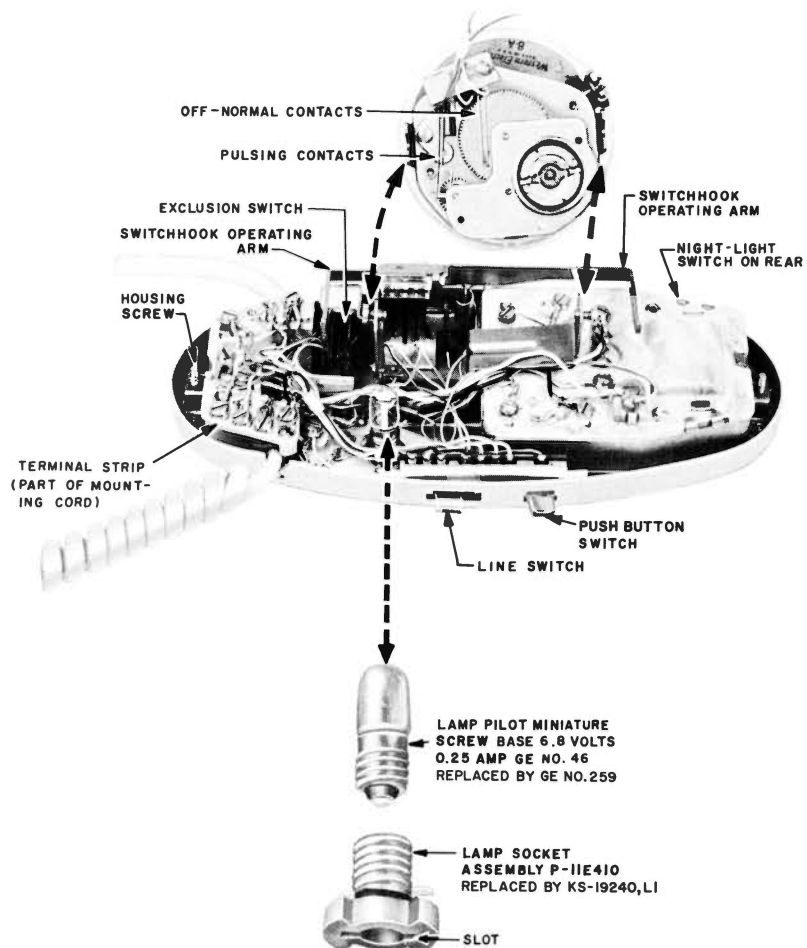

Fig. 13 - 711B Telephone Set with Dial and Socket Removed
3.01 Components of the 700-type telephone sets are shown in Table A and Fig. 13. Descriptions of these items may be found in the appropriate sections.
3.03 The 8-type dial used in the 700-type set has a translucent number plate which is indirectly lighted by the dial lamp. (See Fig. 13.) This lamp operates when the handset is removed or the night light switch is operated. Current for the dial lamp is furnished by a 2012A transformer.
3.05 A slide switch located in the base of the set, at the rear, controls the night light circuit. (See Fig. 13.) This circuit provides a steady, reduced illumination of the dial.
3.06 The lamp socket assembly, with the lamp, is easily removed through the base of the set. It is not necessary to open the set for lamp replacement. (See Fig. 13.)
3.10 Fig. 13 shows the 711B telephone set minus the handset and housing. It points out location of other components and is a reference for Table A.